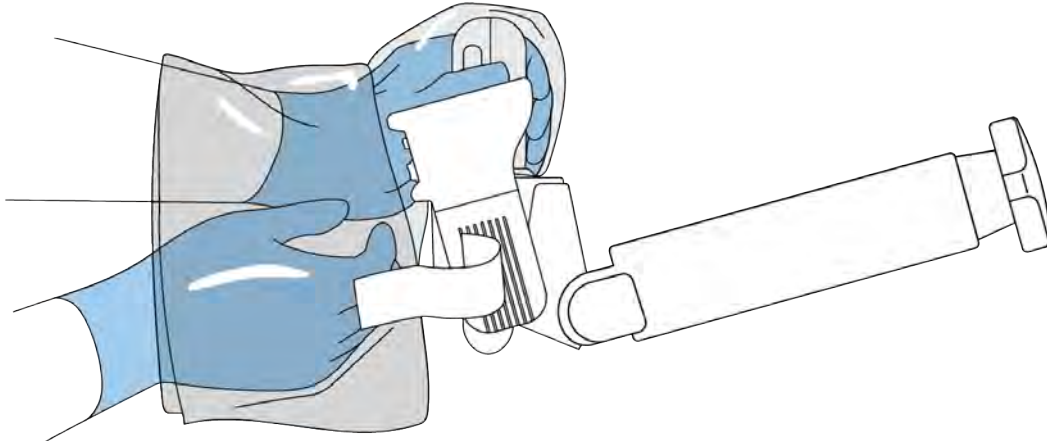

Figure 15. Hold Integrated Ultrasound Probe with left hand and roll drape toward back of CERTA Access Device.
9. Hold the top end of the Integrated Ultrasound Probe with the left hand, and using the right hand, roll the drape toward the back of the CERTA Access Device (Figure 15) aligning the rectangular marking on the Sterile Drape with the head of the Integrated Ultrasound Probe.